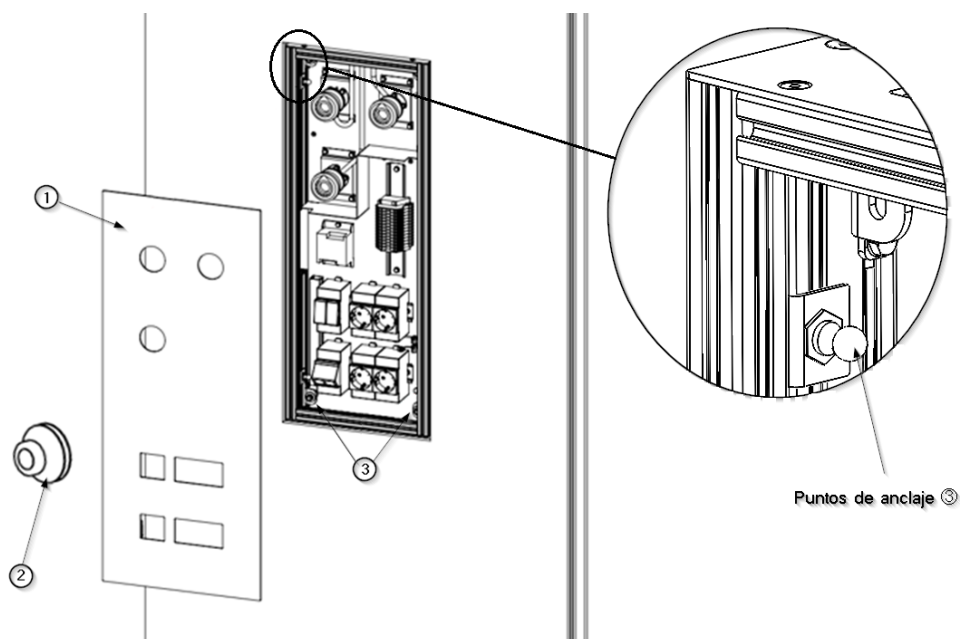

Fig. 3 Removal of ANTEA's front panel
- Remove the cover ① using the suction cup ② as shown in Figure 3. All circuits, gas, electrical, voice and data, will be exposed.
- To refit, present the cover and locate the anchorage points ③.
- Press on the cover in the area of the anchor points ③ until you hear the clipping sound.